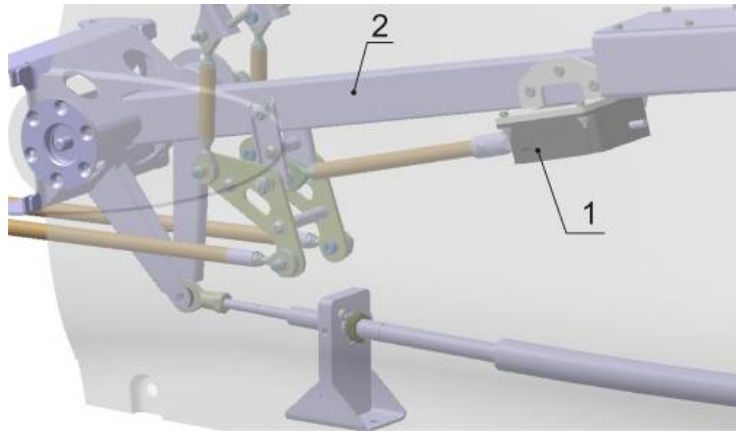

Fig. 27-40-7
Electric Pitch Trim Actuator (1) is installed to Stabilator Mounting Pivot (2) (see Fig. 27-40-7) and replaces standard mechanical spindle drive. The kinematic system that is operated by this actuator is not changed compared to the basic aircraft. The servo is actuated rocker switch commanding by pilot. Trim position indication is provided to the pilot on the EMS screen.